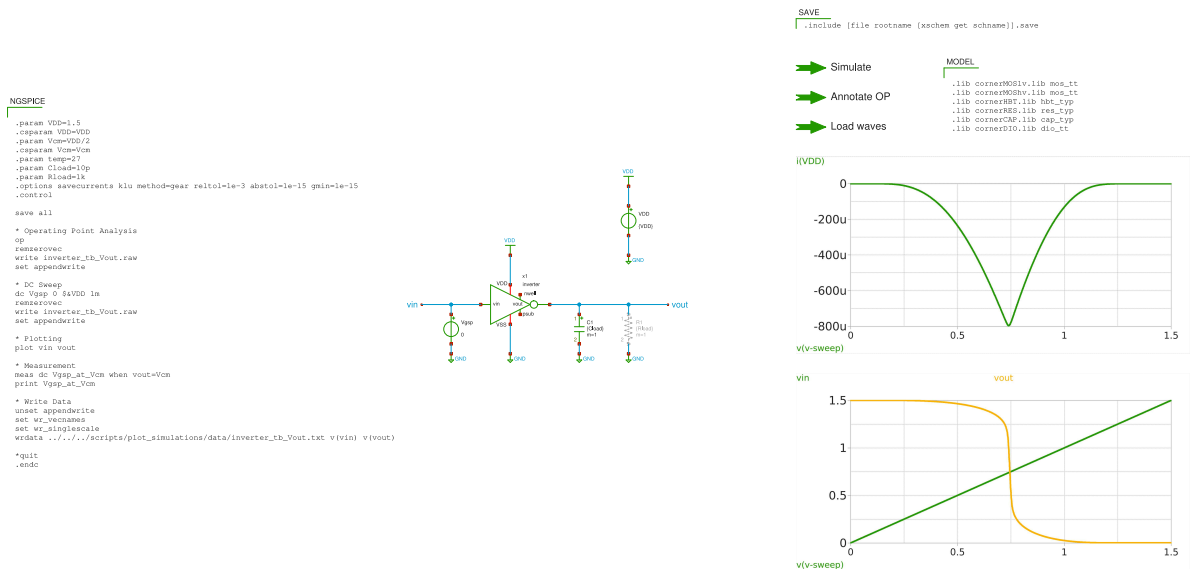

Figure 10: Xschem testbench `inverter_tb_dc_vout` (dc input sweep on inverter).
- inverter_tb_dc_vout.sch, dc input sweep (see Figure 10),